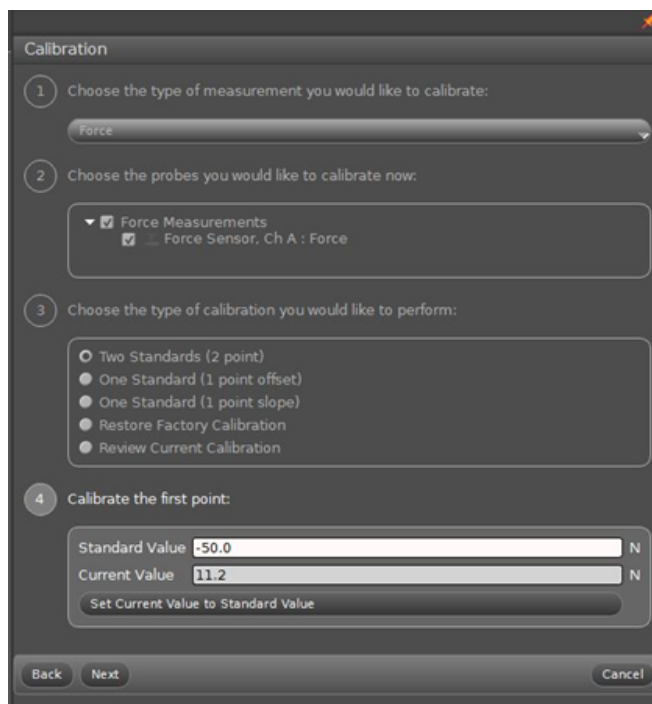

Figure 5: Calibrate sensors
- 5 Choose Force as the sensor to calibrate, then Two Standards (2 points), then click next. See Figure 5.